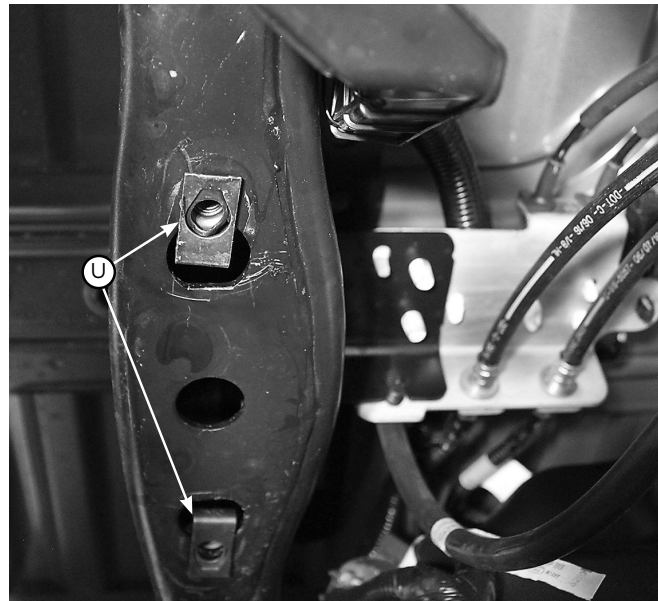

Fig. 4
3. Install the universal nuts (U) into the frame rail, lining up the holes in the frame and the threads in the nuts so that a bolt can be installed (Fig. 4).